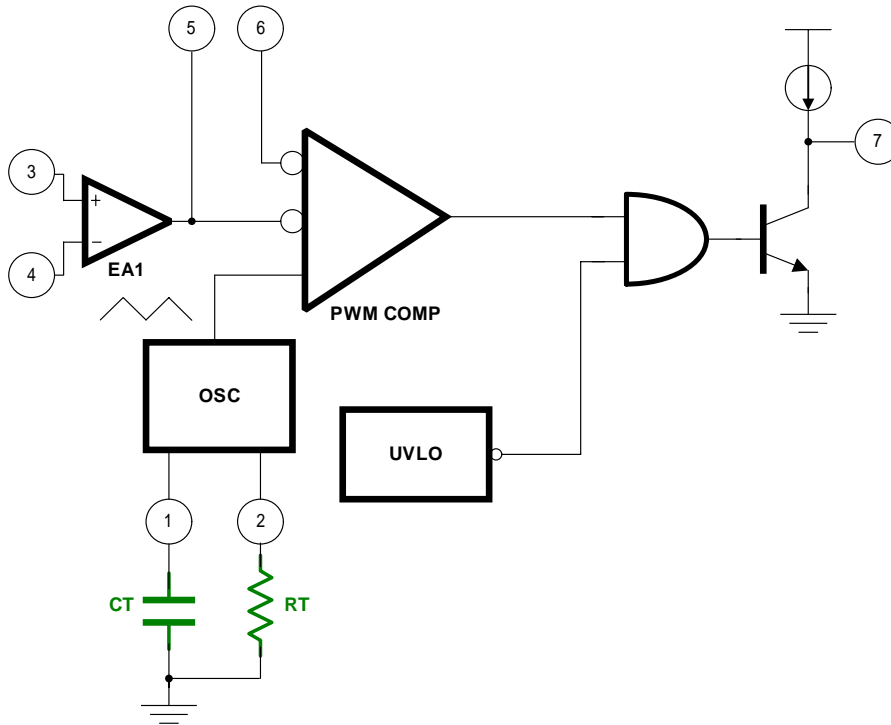
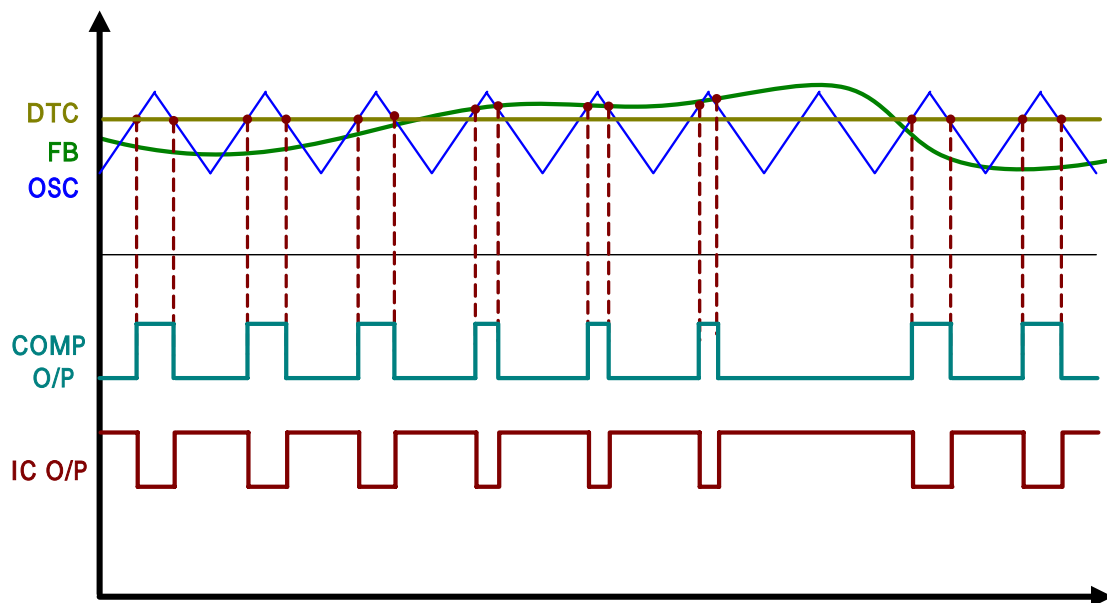

Figure 16. Oscillator/PWM Comparator with Frequency RC circuits
Figure 17. FP5453 Timing Waveforms
The oscillator frequency can be decided from 20KHz to 1.2MHz by the resistor (RT) and capacitor (CT) which are connected with pin1 and pin2 of **FP5453**, a sawtooth waveform would compare with feedback signal of the error amplifier and dead-time control voltage, the figure 16 is the relationship of oscillator, error amplifier and PWM comparator, and figure 17 is the waveforms of **FP5453**.